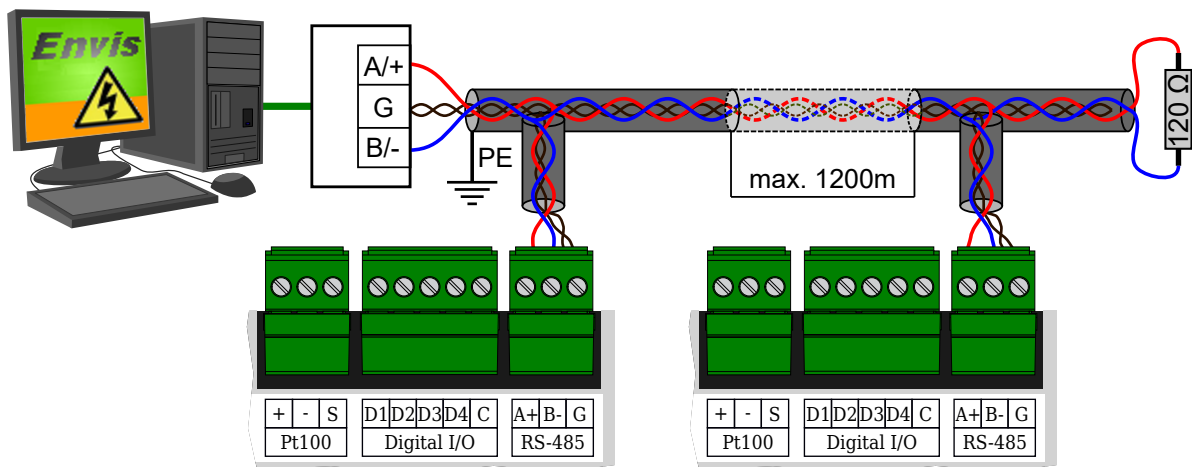

Figure 8: Connection of RS-485 communication lines to SMC 233 devices SMC 233.
**RS-485** It is usually used as an interface for remote reading of current values, archive records, and instrument settings. The RS-485 serial line uses the A +, B-, and G-signal terminals on the terminals described by RS-485 (fig. 8). The ends of the communication line must be terminated with the specified resistance.